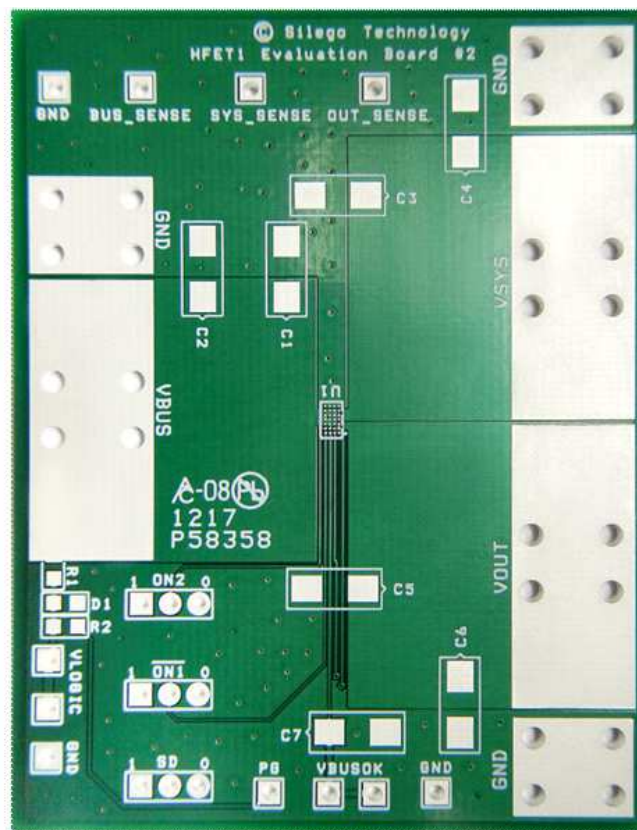

Figure 1. SLG59H1302C Evaluation Board
1. Since the BUS, SYS and OUT pins dissipate most of the heat generated during high-load current operation, it is highly recommended to make power traces as short, direct, and wide as possible. A good practice is to make power traces with absolute minimum widths of 15 mils (0.381 mm) per Ampere. A representative layout, shown in Figure 1, illustrates proper techniques for heat to transfer as efficiently as possible out of the device;
A High Voltage GreenFET Evaluation Board for SLG59H1302C is designed according to the statements above and is illustrated on Figure 1. Please note that evaluation board has BUS_Sense, SYS_Sense and OUT_Sense pads. They cannot carry high currents and dedicated only for $R_{DS(ON)}$ evaluation.